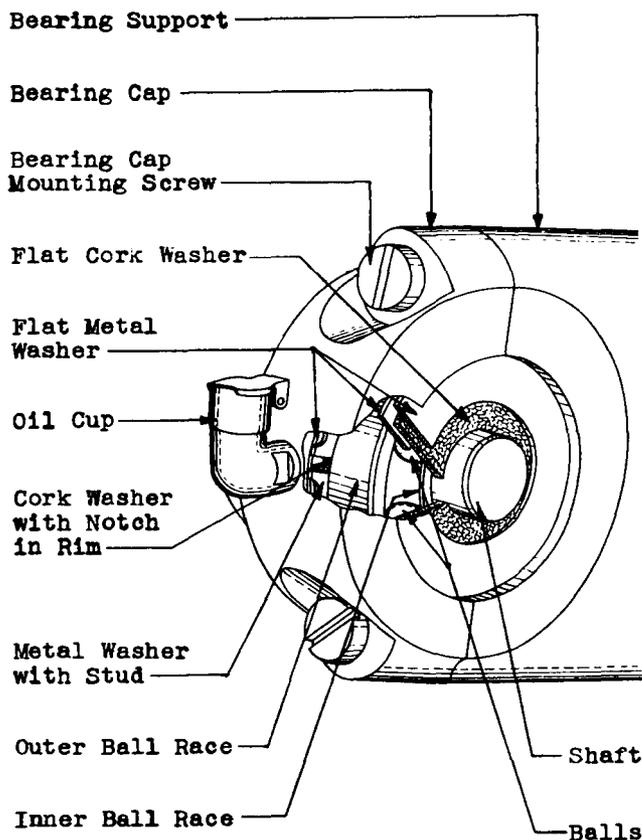

Fig. 20 – Bearing Assembly at Right-Hand End of Shaft
3.19 *Bearing Caps.* Remove the two bearing cap mounting screws (shown in Fig. 20) with the 4" regular screw-driver and remove the bearing cap. Since the two bearing caps associated with the two bearings of a shaft are slightly different, examine the new bearing cap to make sure that it is like the one being replaced, or like another bearing cap on the corresponding end of another shaft on the interrupter. In reassembling the parts, take care that the bearing washers fit properly into the grooves in the bearing support. In placing the bearing cap over the bearing washers, first engage the upper portions of the metal washers by the proper grooves in the bearing cap and then gradually work the bearing cap into place. Make sure that the bearing cap can be pressed completely into position with the hand and if resistance is felt, do not force the bearing cap into position by means of the bearing cap mounting screws. Insert the bearing cap mounting screws and hold the bearing cap in place with one hand while